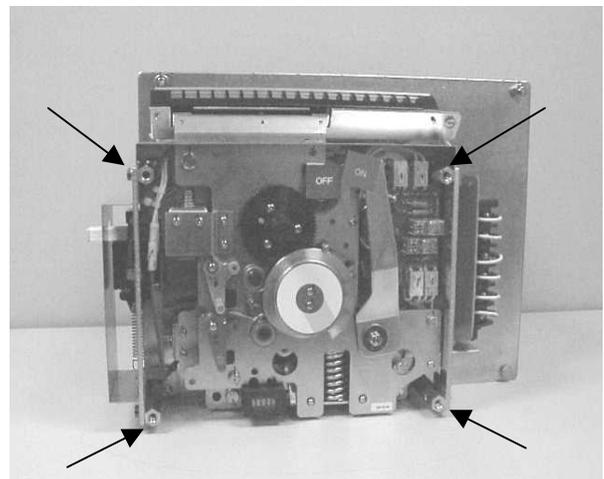

Fig. 10 Align Breaker With Panel Cutout
3. Align the breaker with the cutout and mounting holes on the panel to which it is to be mounted (Fig. 10). Some breakers are furnished with two hooks that may be used to temporarily attach the breaker to the panel.